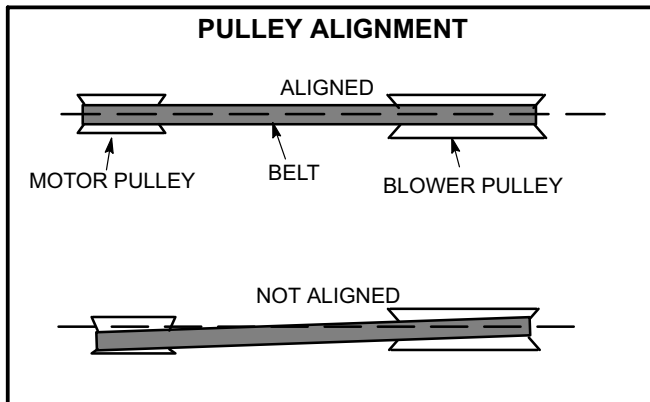

**FIGURE 22**
**IMPORTANT** - Belt-driven inverter units are factory-set to run the blower at full speed (60Hz) when there is a blower (G) demand without a heating or cooling demand. Refer to the field-provided, design specified CFM for all modes of operation. Use the following procedure to adjust motor pulley to deliver the highest CFM called for in the design spec. See Inverter Start-Up section to set blower speeds for all modes once the motor pulley is set.
- 2- With all access panels in place, measure static pressure external to unit (from supply to return). Blower performance data is based on static pressure readings taken in locations shown in figure 22.